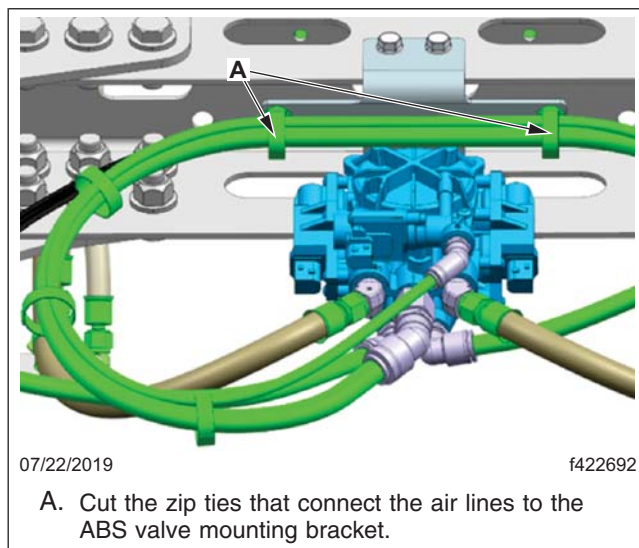

Fig. 2, ABS Zip Ties
5. Cut the zip ties that connect the air lines to the ABS valve mounting bracket. See Fig. 2.